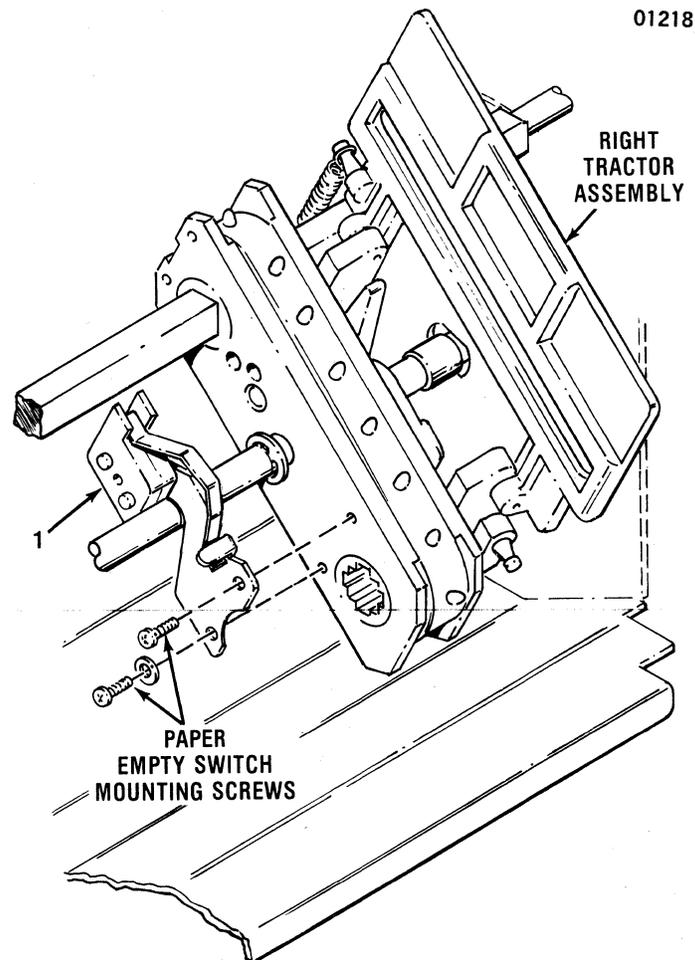

Figure 5-17. REMOVAL/REPLACEMENT, PAPER EMPTY SWITCH
The paper empty switch, item 1 of Figure 5-17, is located on the right pin feed tractor and is removed using a Phillips head screwdriver. To remove the paper empty switch, refer to Figure 5-17 and perform the following steps: